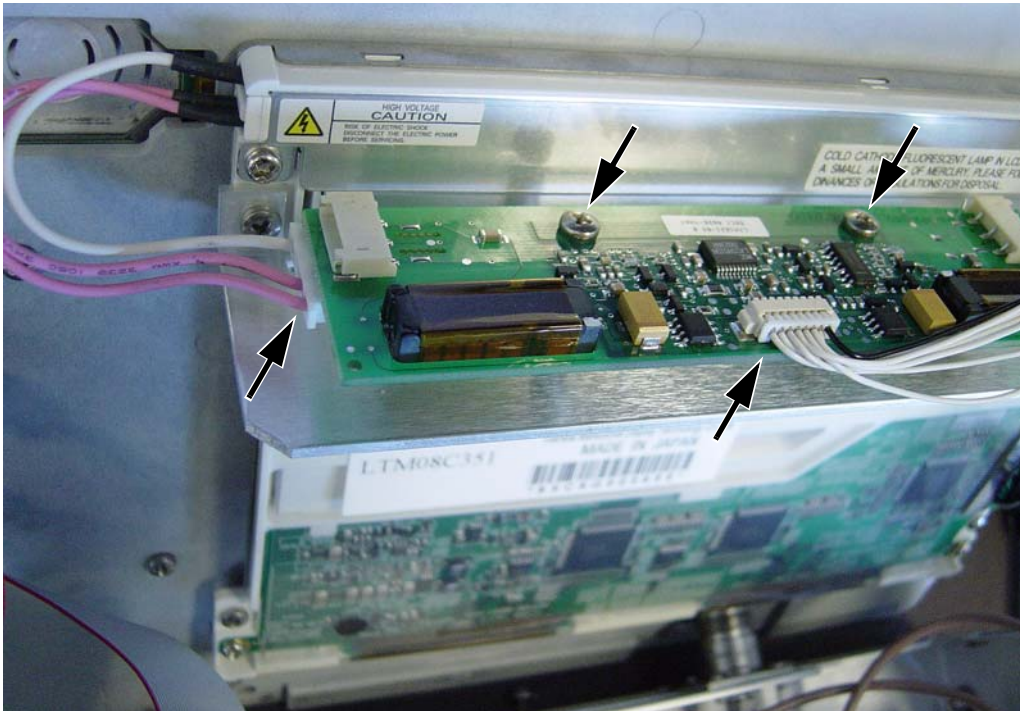
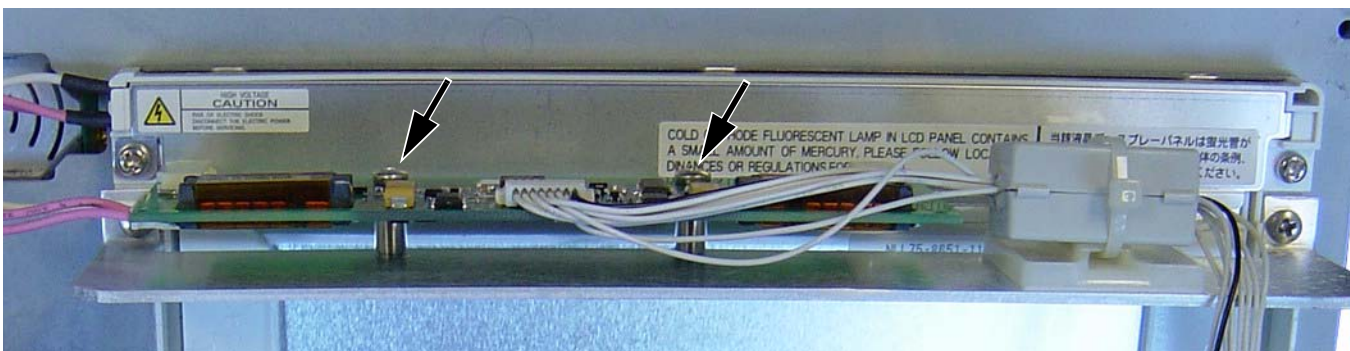

Figure 5-17. Backlight Driver PCB Connections
Figure 5-18. Backlight Driver PCB Screws
1. With the chassis upright on a static protected work surface, unplug the backlight inverter cable connector from the backlight driver PCB. This connector is on the right edge (facing the front panel, as in normal instrument operation) of the PCB. Refer to Figure 5-17.
3. Remove the 2 screws (refer to Figure 5-17 and Figure 5-18) that hold the PCB to the mounting bracket.